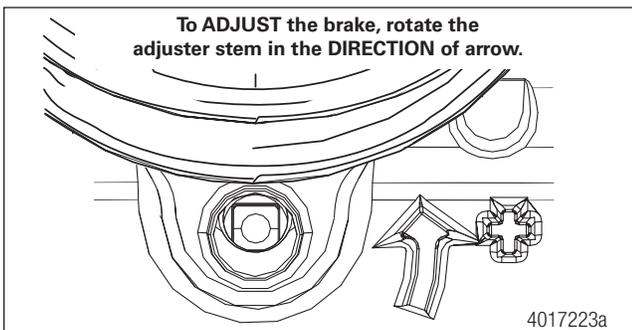
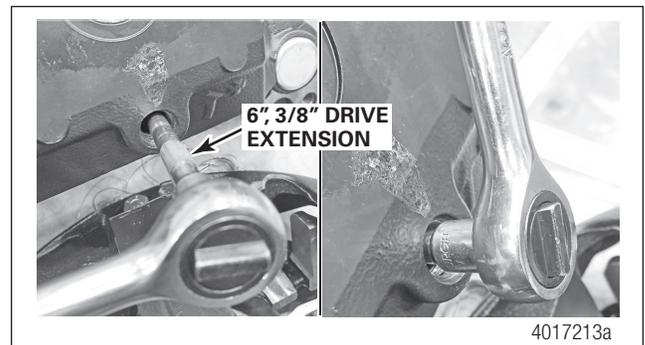

Fig. 6.25 Adjustment Arrow Cast into the Caliper Housing (RH)
Fig. 6.27 Use wrench with 6", 3/8-drive extension to rotate adjuster stem.
STEP 2 - Use a six-inch (6") standard 3/8" drive extension on a hand-held wrench to rotate the manual adjuster stem IN DIRECTION OF ARROW CAST INTO BACK OF HOUSING so that the brake pad-to-rotor clearance is ZERO. Figure 6.25, Figure 26 and Figure 6.27.